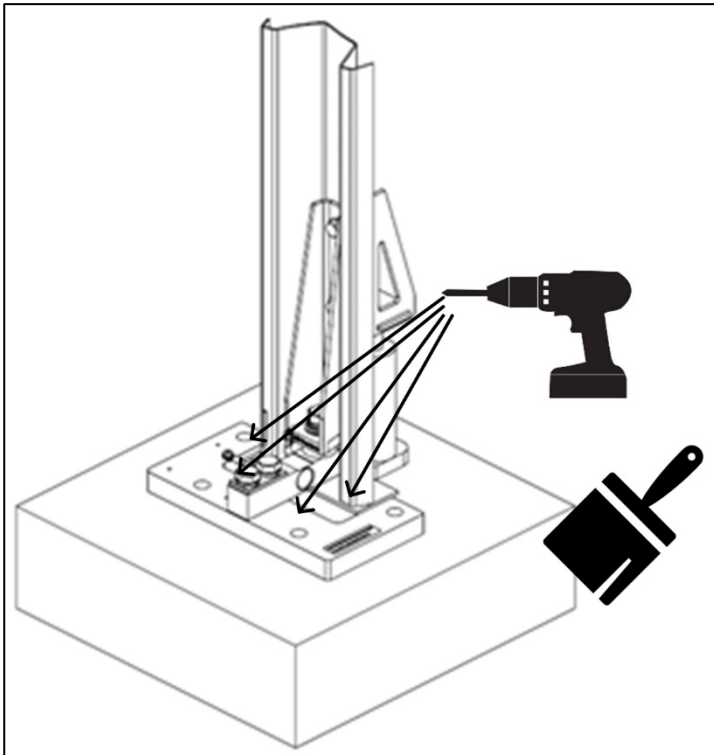

Figure 21: Drilling and cleaning the holes
10. Using a rotary hammer drill with a  $\frac{3}{4}$  inch concrete drill bit, drill a 5-inch deep hole on each side of the assembly. Using a brush, clean the area to prevent the concreted powder from entering the holes (Figure 21).